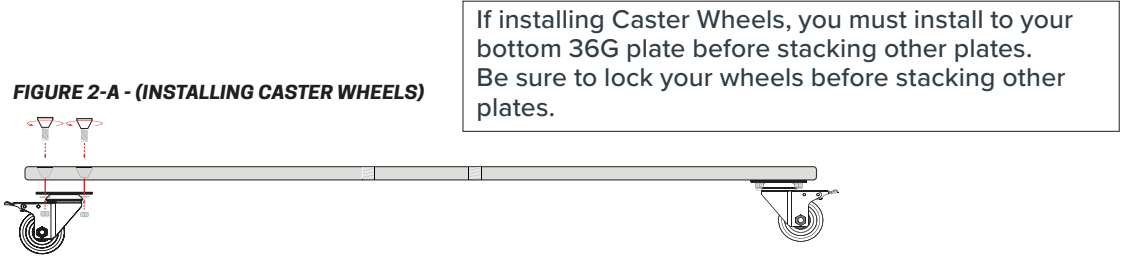

FIGURE 3
- Once all three plates are stacked, and over the Guide Pins, retrieve and remove the Spigot from the mast of your Eclipse® umbrella. Place the Spigot over the Guide Pins (**FIGURE 3**) then remove the Guide Pins and you will have a clear visible path to the bottom plate’s threaded holes.